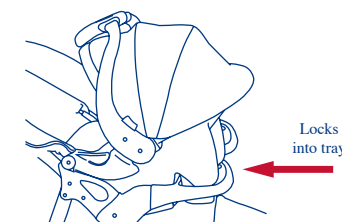

Fig. 13
- Position the infant car seat facing toward the rear of the stroller so that the shell goes onto the tray and latches into place. (Fig. 13)